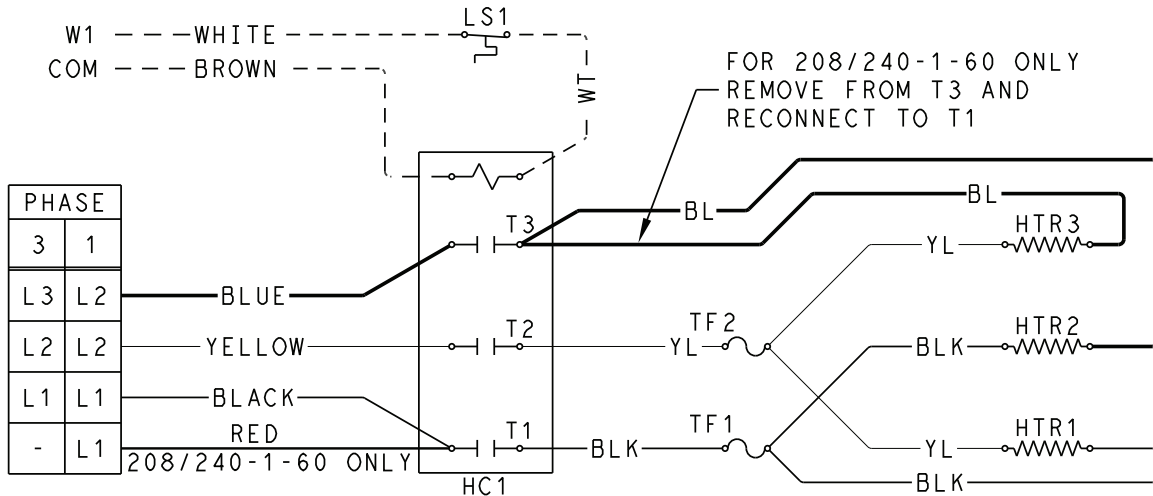

Fig. 14 — Single-Phase Heater Wiring
Three-phase applications: Skip to Step 5. For single-phase application, rewire the heater as follows (see Fig. 14):
- a. Connect RED wire provided with kit to Heater Contactor (HC1) and to L1. (See Fig. 14.)